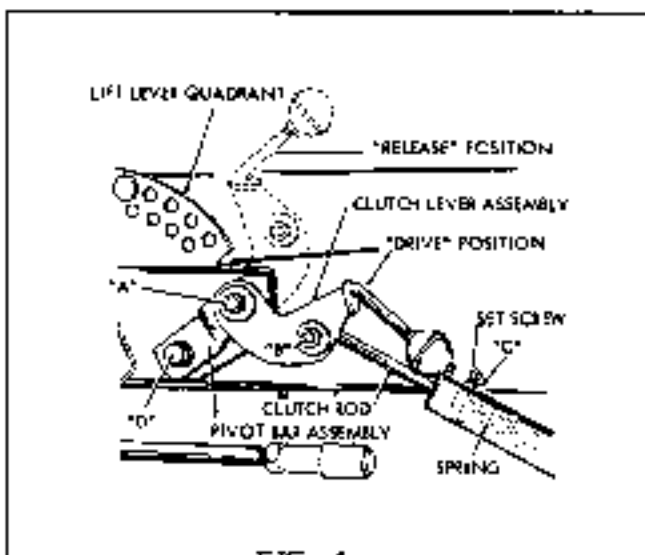

FIG. 4
4. Remove hex capscrew "D" from frame of tractor and mount bracket in place on left lever quadrant (Fig. 4). Position the pivot bar assembly flush against bottom of left quadrant and reinstall the hex capscrew and tighten securely. Check alignment of drive pulley on bevel gear shaft, driven pulley of P.T.O. and idler pulley and adjust driving pulley if necessary.
Operation of the P.T.O. is controlled by movement of the clutch lever assembly. (See Fig. 4). When the clutch lever is in the forward raised position, the clutch rod releases the tension holding the idler pulley against the drive belt and power will not be transmitted to the driven pulley of the P.T.O. assembly. When the clutch lever is in the back, depressed position, the clutch rod applies tension to the idler pulley and as the idler pulley takes-up the slack in the drive belt, power is transmitted from the drive pulley on bevel gear box shaft to the driven pulley of the P.T.O. Fig. 4 shows clutch lever in drive position.
At points "A" and "B" of Fig. 4, check tightness
Place clutch lever in "drive" position and observe clearance between collar "C" (Fig. 4) and end of bracket. When implement is attached to tractor, this clearance should normally be approximately $3/4$ " at this setting the idler pulley should be snug against the drive belt. If additional tension is required, release clutch lever and loosen setscrew on collar and slide collar farther back on clutch rod. Retighten setscrews in collar and put clutch lever in drive position. Recheck clearance. The tension of the idler pulley against the drive belt must be sufficient to operate whichever tractor attachment is being used. Any additional tension is unnecessary and will only cause premature failure of belts and idler pulley bearings.